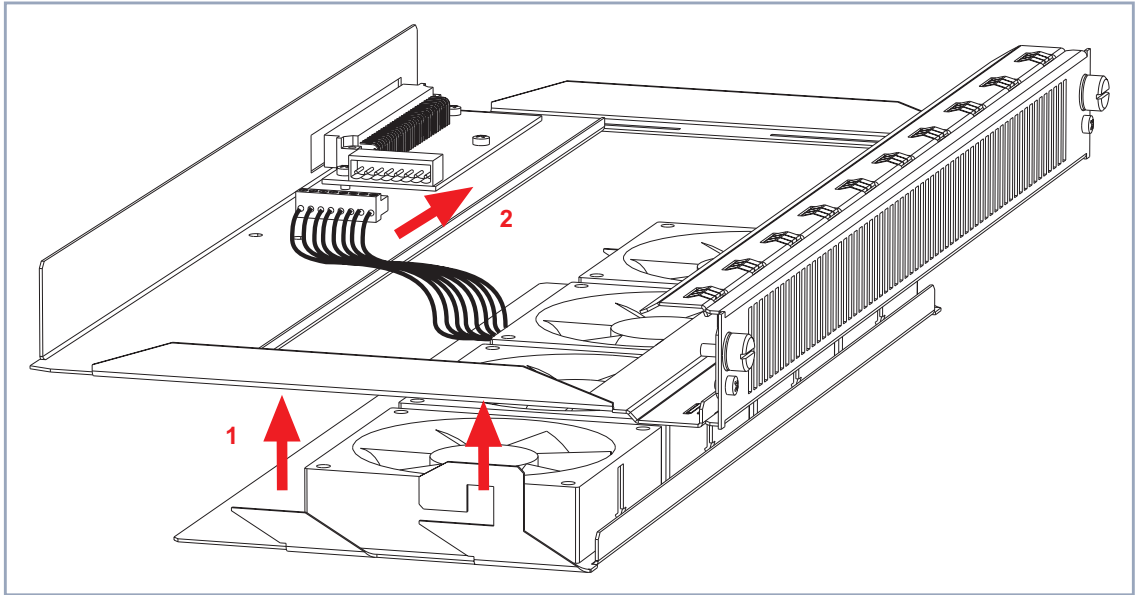

Figure 4-12: Inserting the fan insertion into the fan cassette
- Insert the fan insertion into the fan cassette as shown in figure 4-12, page 51, arrow no. 1.
- Connect the fan insertion plug to the fan cassette as shown in figure 4-12, page 51, arrow no. 2.
- Insert the new fan insertion into the fan cassette as shown in figure 4-12, page 51, arrow no. 1.